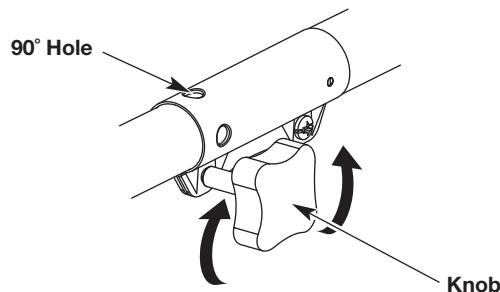

Fig. 1
1. Turn the knob counterclockwise to loosen (Fig. 1).
3. Turn the knob clockwise to tighten (Fig. 1).
**CAUTION:** Before operating this unit, be sure that the release button is fully snapped into the 90° hole and that the knob (Fig. 1) is securely tightened. Using the wrong hole could lead to personal injury or damage to the unit.